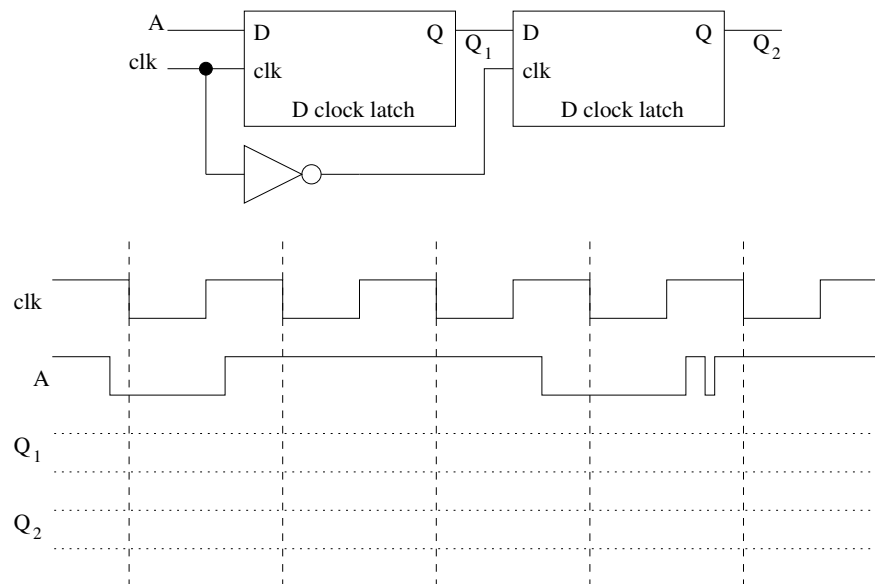

Figure 5.3: A 2-stage sequential circuit.
3. (8 pts.) Complete the timing diagram for the circuit shown in Figure 5.3. Which basic memory element does this circuit act like?